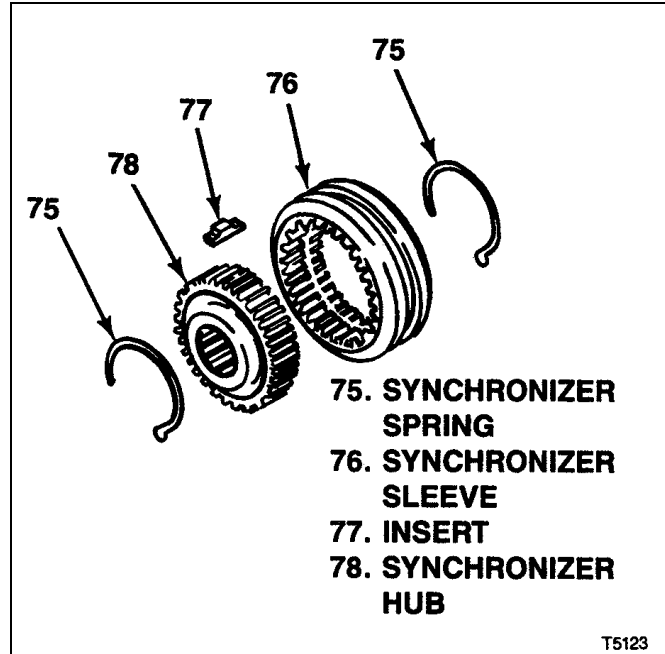
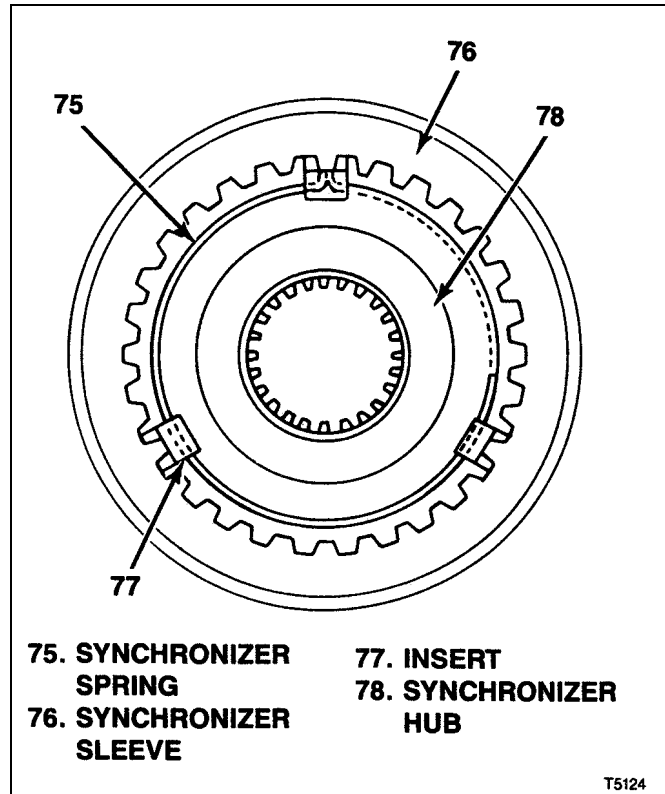
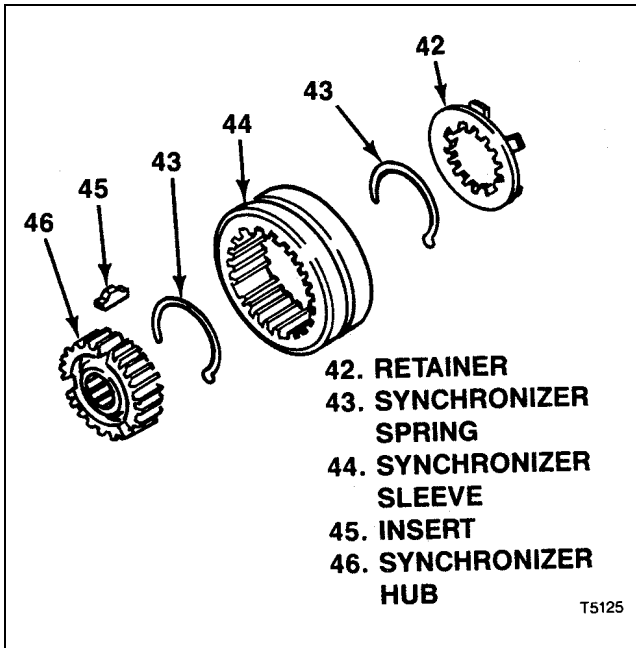

Figure 7-1. T5 STD 3rd-4th Synchronizer Assembly
Figure 7-2. T5 STD 3rd-4th Synchronizer Assembled
Figure 7-3. T5 STD 5th Synchronizer Assembly
- Bearing (39)
- Bearing cone (61)
- Bearing roller (63)
- Thrust bearing (64)
- Needle bearing (71)
- Bearing (101)
**7-6. ASSEMBLY OF T5 STD 3RD-4TH SYNCHRONIZER ASSEMBLY** (see figure 7-1). Be sure to assemble sleeve (76) and hub (78) aligning marks made at disassembly (see figure 7-2) so that clutch teeth and part faces are assembled exactly as they were originally. Assemble as follows:
- b. Hook one end of one spring (75) under one of the inserts (77) and wrap around inside, under all three inserts. Hook other end of spring under insert (see figure 7-2).
- c. Invert assembly. Hook remaining spring (75) under opposite end and side of same insert (77) where step b was started but wrap around inside in opposite direction from step b, under all three plates. Hook other end of spring under insert (77) (see figure 7-2).
- d. Position sleeve (76) and inserts (77) so that all inserts snap into neutral position..
**7-7. ASSEMBLY OF T5 STD 5TH SYNCHRONIZER** (see figure 7-3) Be sure to assemble sleeve (44) and hub (46) aligning marks made at disassembly so that clutch teeth and part faces are assembled exactly as they were originally. Assemble as follows: